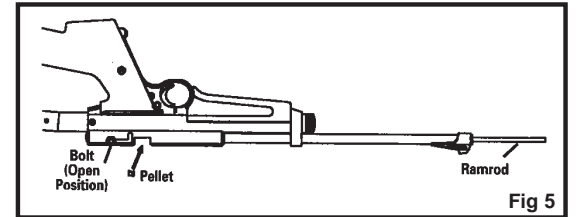

Fig 5
- Push the jammed pellet into the pellet loading port (forward of the bolt). (Fig. 5)